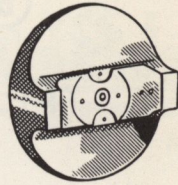

Fig. 18
15. What are the advantages of the multiple jet cap? (Fig. 18)